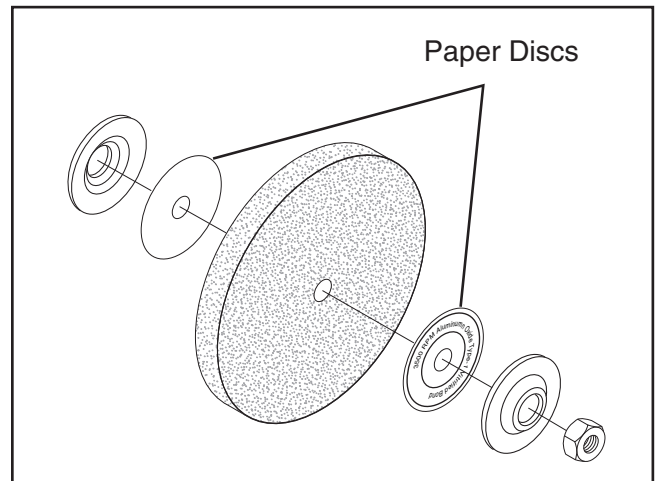
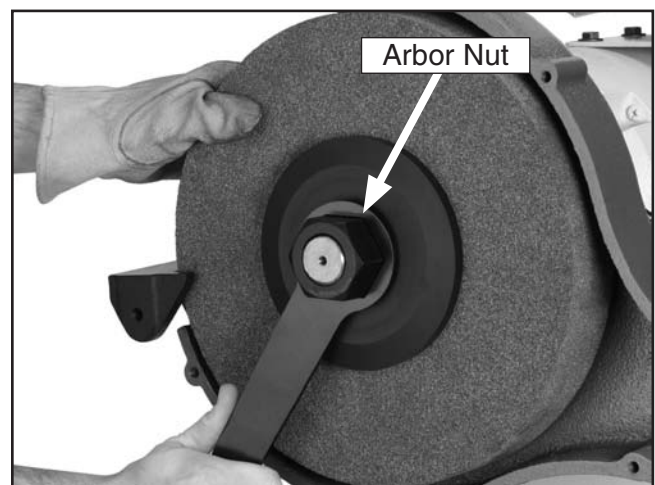

Figure 6. Assembly order for wheel installation.
Figure 7. Nut removal/tightening.
5. Mount the new wheel as shown in **Figure 6**. Always make certain there is a paper or fiber disc between the wheel flanges and the wheel itself. Tighten the nut snugly but **DO NOT** over-tighten. Over-tightening can crack the wheel (see **Figure 7**).